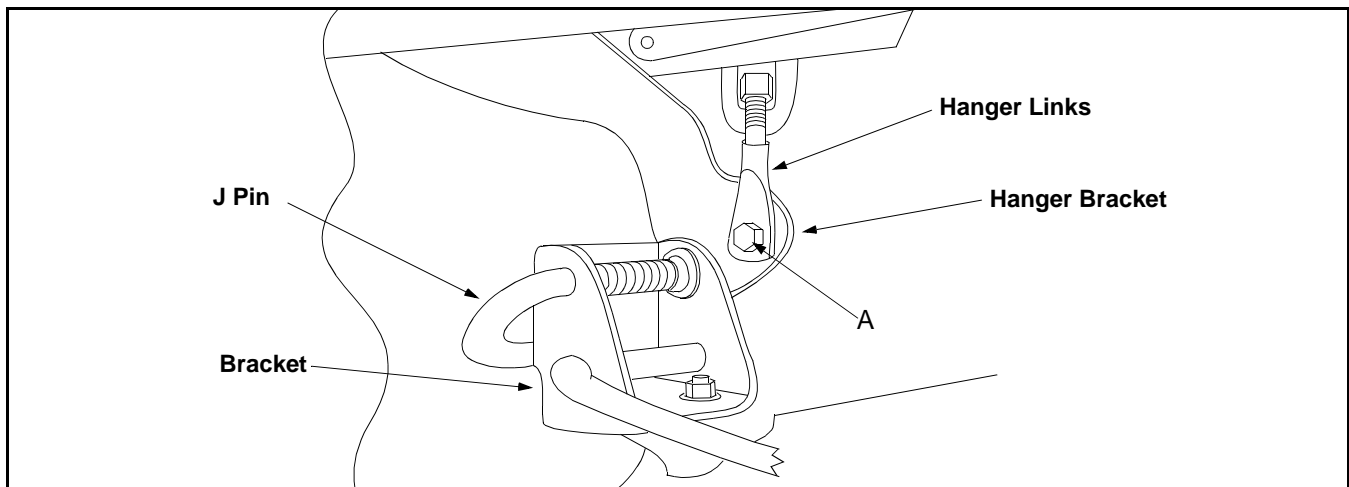

Figure 21
(See Figure 21)
1. Remove the nut and bolt (A) that holds the hanger link to the hanger bracket on the side that is low. (See Figure 21)
1. Remove the nut and bolt (A) that holds the hanger link to the hanger bracket on the side that is high. (See Figure 21)